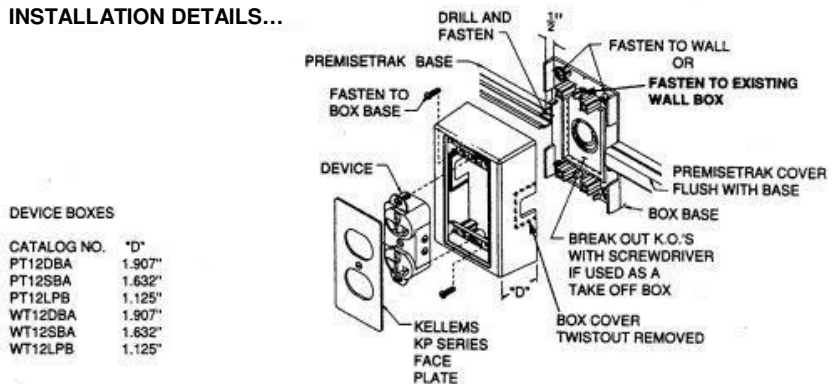
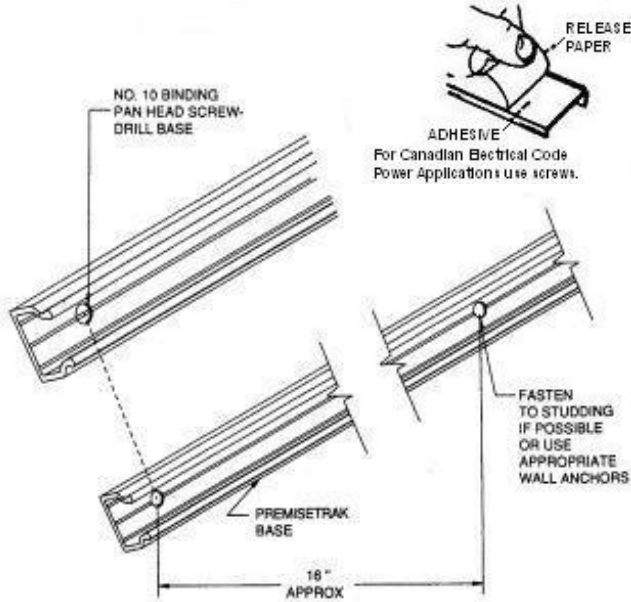

FIG. 2
FIG. 6 Mounting PREMISETRAK Base...
4. Install PREMISETRAK base section abutting device box base (fig. 2). Align centering line of raceway with centering tab on device box base. Continue along run, installing PREMISETRAK base, device and/or fixture bases in sequence, as in appropriate installation details. Cut PREMISETRAK base sections to length as required. Align base sections with ends abutting, drill and fasten to surface as in fig. 6.
10. Wire and install devices as in fig. 2. Wire and install fixtures *after* fixture box covers have been installed.